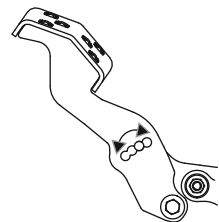

Figure 41
3. Position the pedal to the optimal position based on operator preference. See Figure 41.